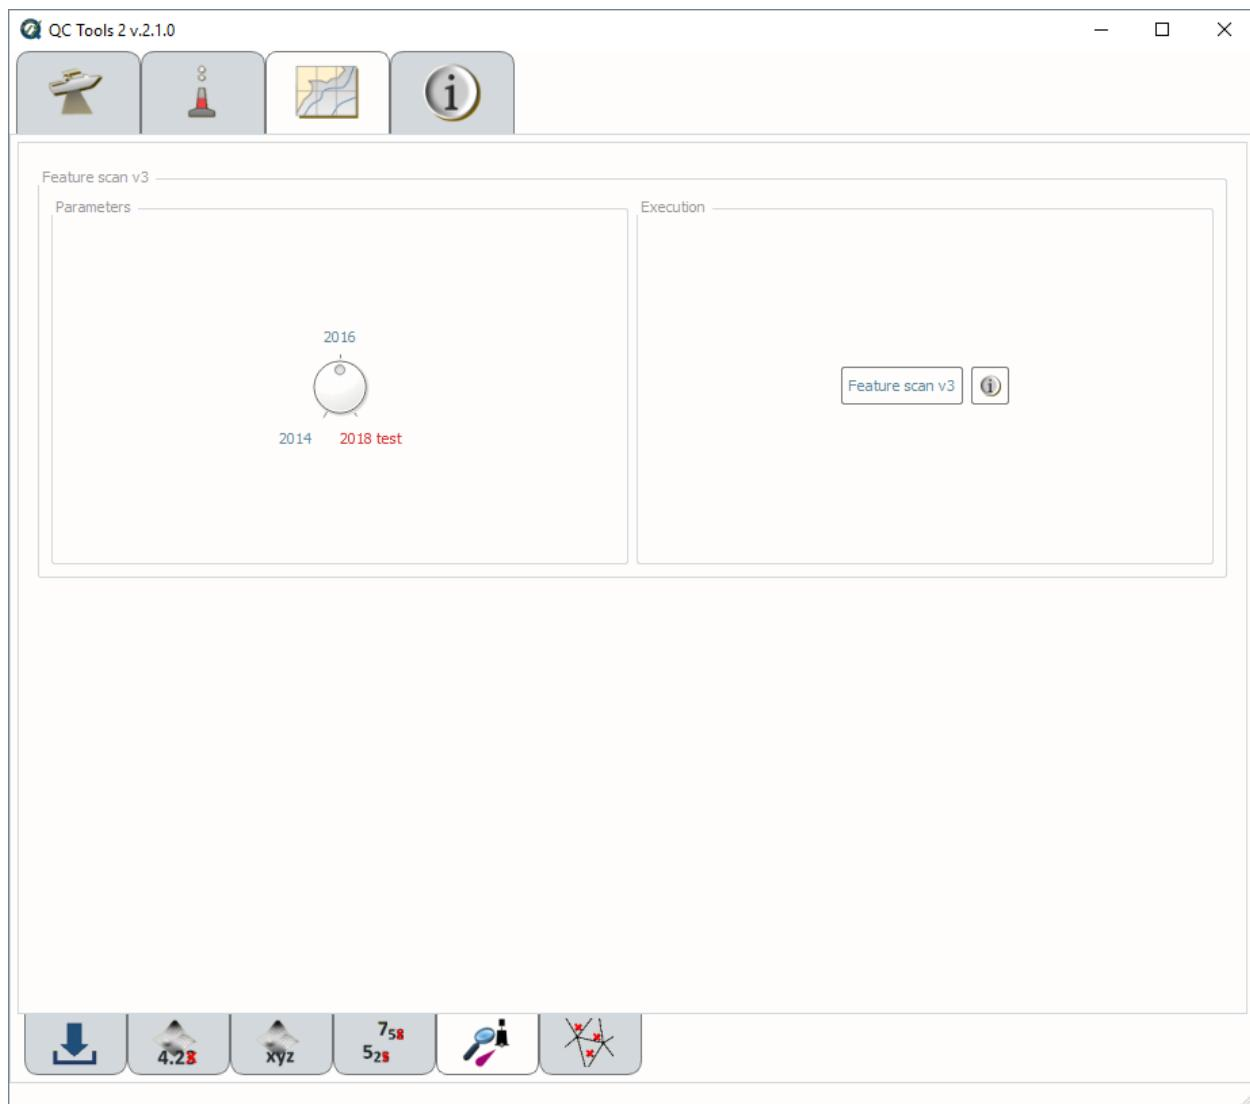

Fig. 2.65: Feature scan's interface.
- In **Parameters** (Fig. 2.65, left side), turn the knob to select the required year of HCell Specification. Currently, the ‘2018 test’ is duplicative to 2016.
- In **Execution** (Fig. 2.65, right side), click **Feature scan v2**.